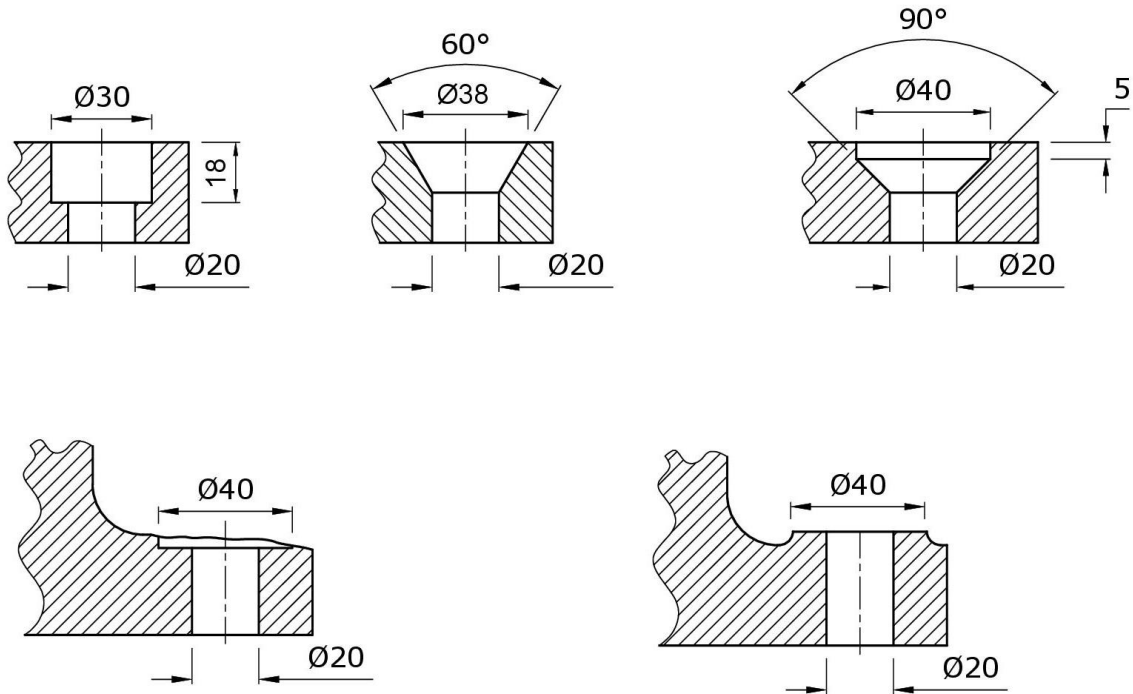

Figure 2
2. Figure 2 shows five drawings of machine features.
- Copy the given figures and substitute the proper method of dimensioning instead of the dimensions shown. (10)
- State the technical term used for each feature, write down the meaning of the term and their use. (5)
- Explain the function of a lug and draw an isometric freehand sketch of such a feature. (5)